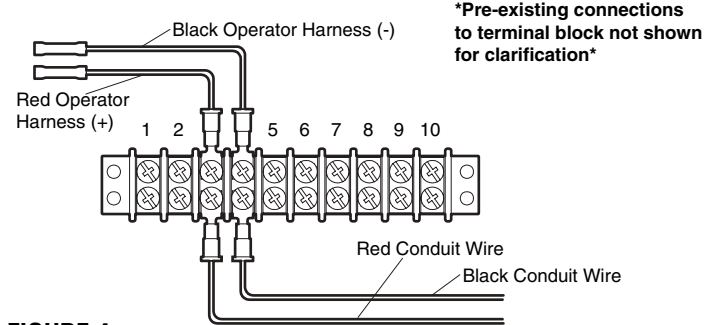

FIGURE 4
- Connect the other end of the conduit provided to the desired position on the **FDO Operator** and make connections as follows (Figure 4):